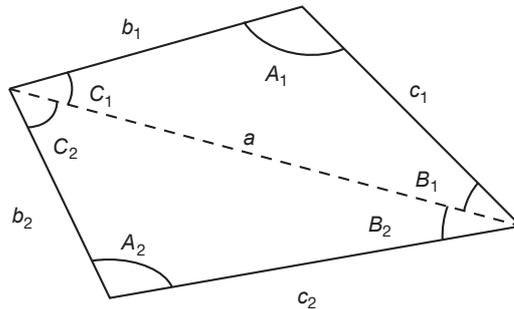

Figure P26
26. The four-sided figure shown in Figure P26 consists of two triangles having a common side  $a$ . The law of cosines for the top triangle states that